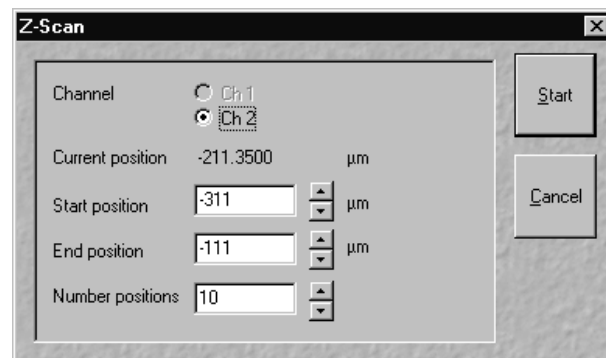

Fig. 5-391 Z-Scan display window
- Press the **Z Scan** button. The **Z Scan** display shows the current Z position of the laser beam. (see Fig. 5-391). Note, that after initialization of the LSM 510 / ConfoCor2 software the position is the same both for the FCS and LSM mode.